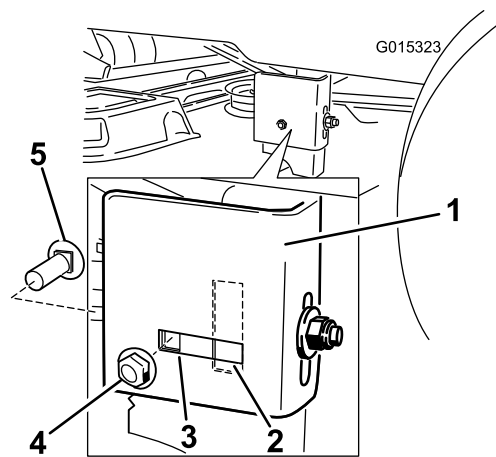

Figure 49
8. Check if the side carriage bolt is in the fixed or slotted position (Figure 49).
Note: If the side carriage bolt is in the fixed position, remove the side carriage bolt and the side-locking nut from the fixed position, and install it into the slotted-adjustment position (Figure 49).